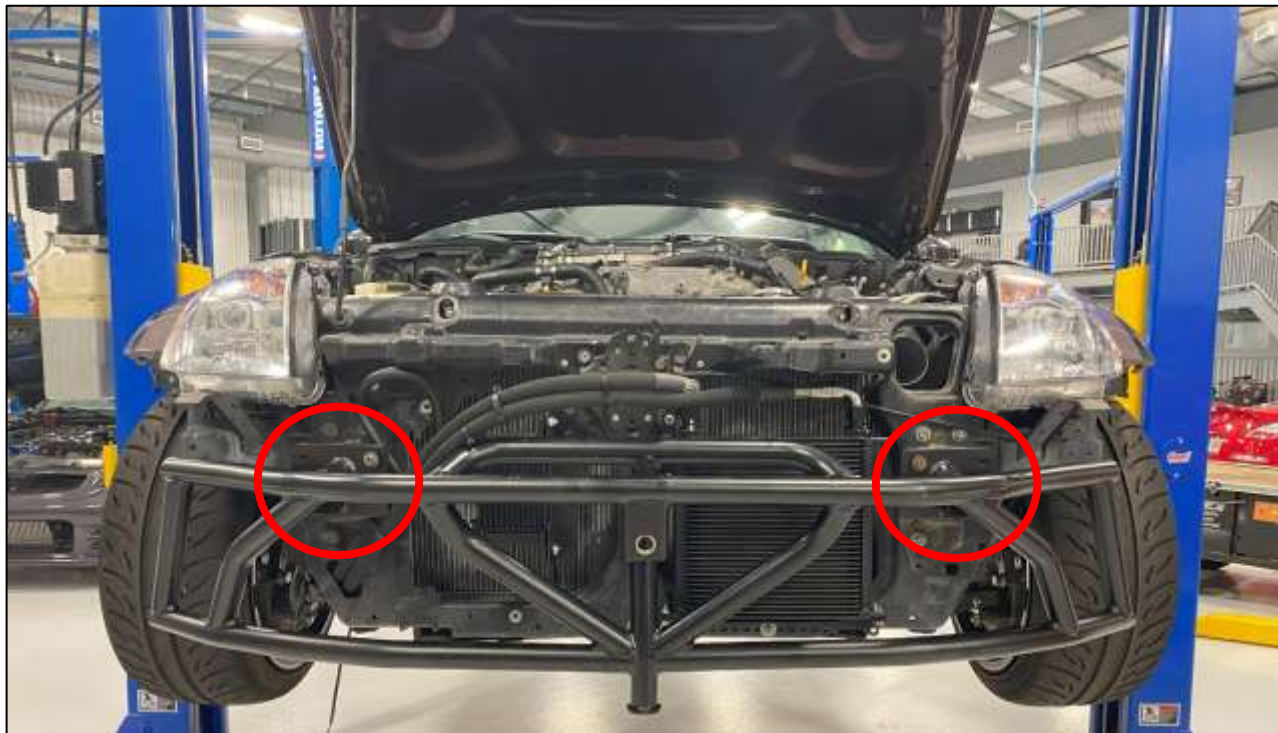

Figure 4
13. Locate the Z1 Full Front Bash Bar and install it onto the OE Crash Bar Location. Secure the Bash Bar by using the (8) eight pieces of OE hardware removed in *Step 9. Figure 4.*